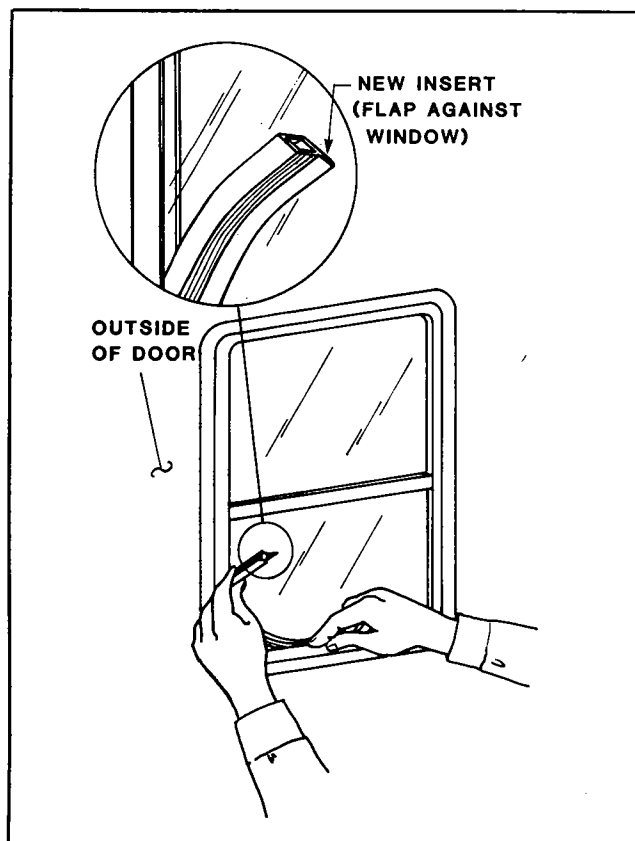

Figure 13. Rubber Insert
3. Install the new rubber insert in the window track with the flaps towards the window (figure 13).